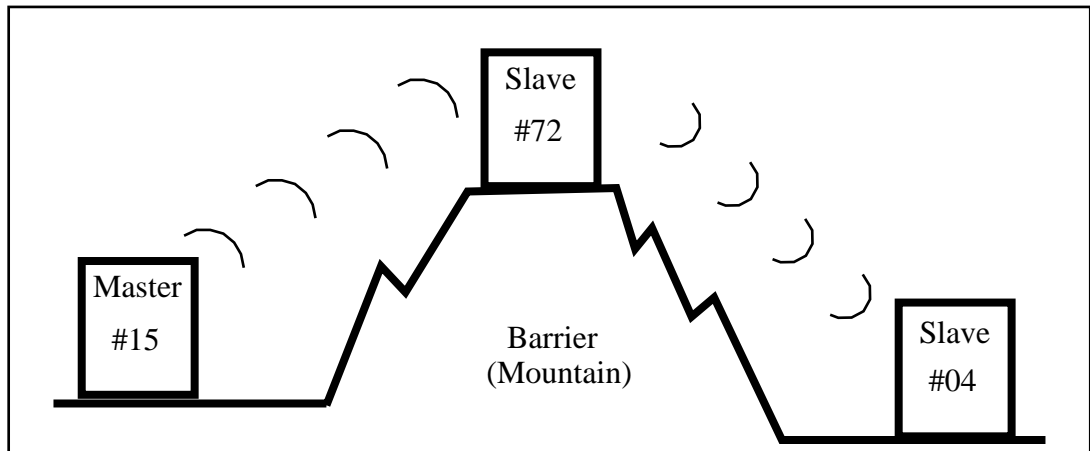

Figure 19-2 RNIM Repeater Example
Figure 19-2 displays an RNIM Master (15) on one side of a mountain, a Slave (04) on the other side of the mountain, and a Slave (72) at the top that can communicate with the other two. If a source on the Master's network (16) wants to send a READ to a PLC (87) on the Slave's network on the other side of the mountain, the route would be: 16, 15, 172, 4, 87.